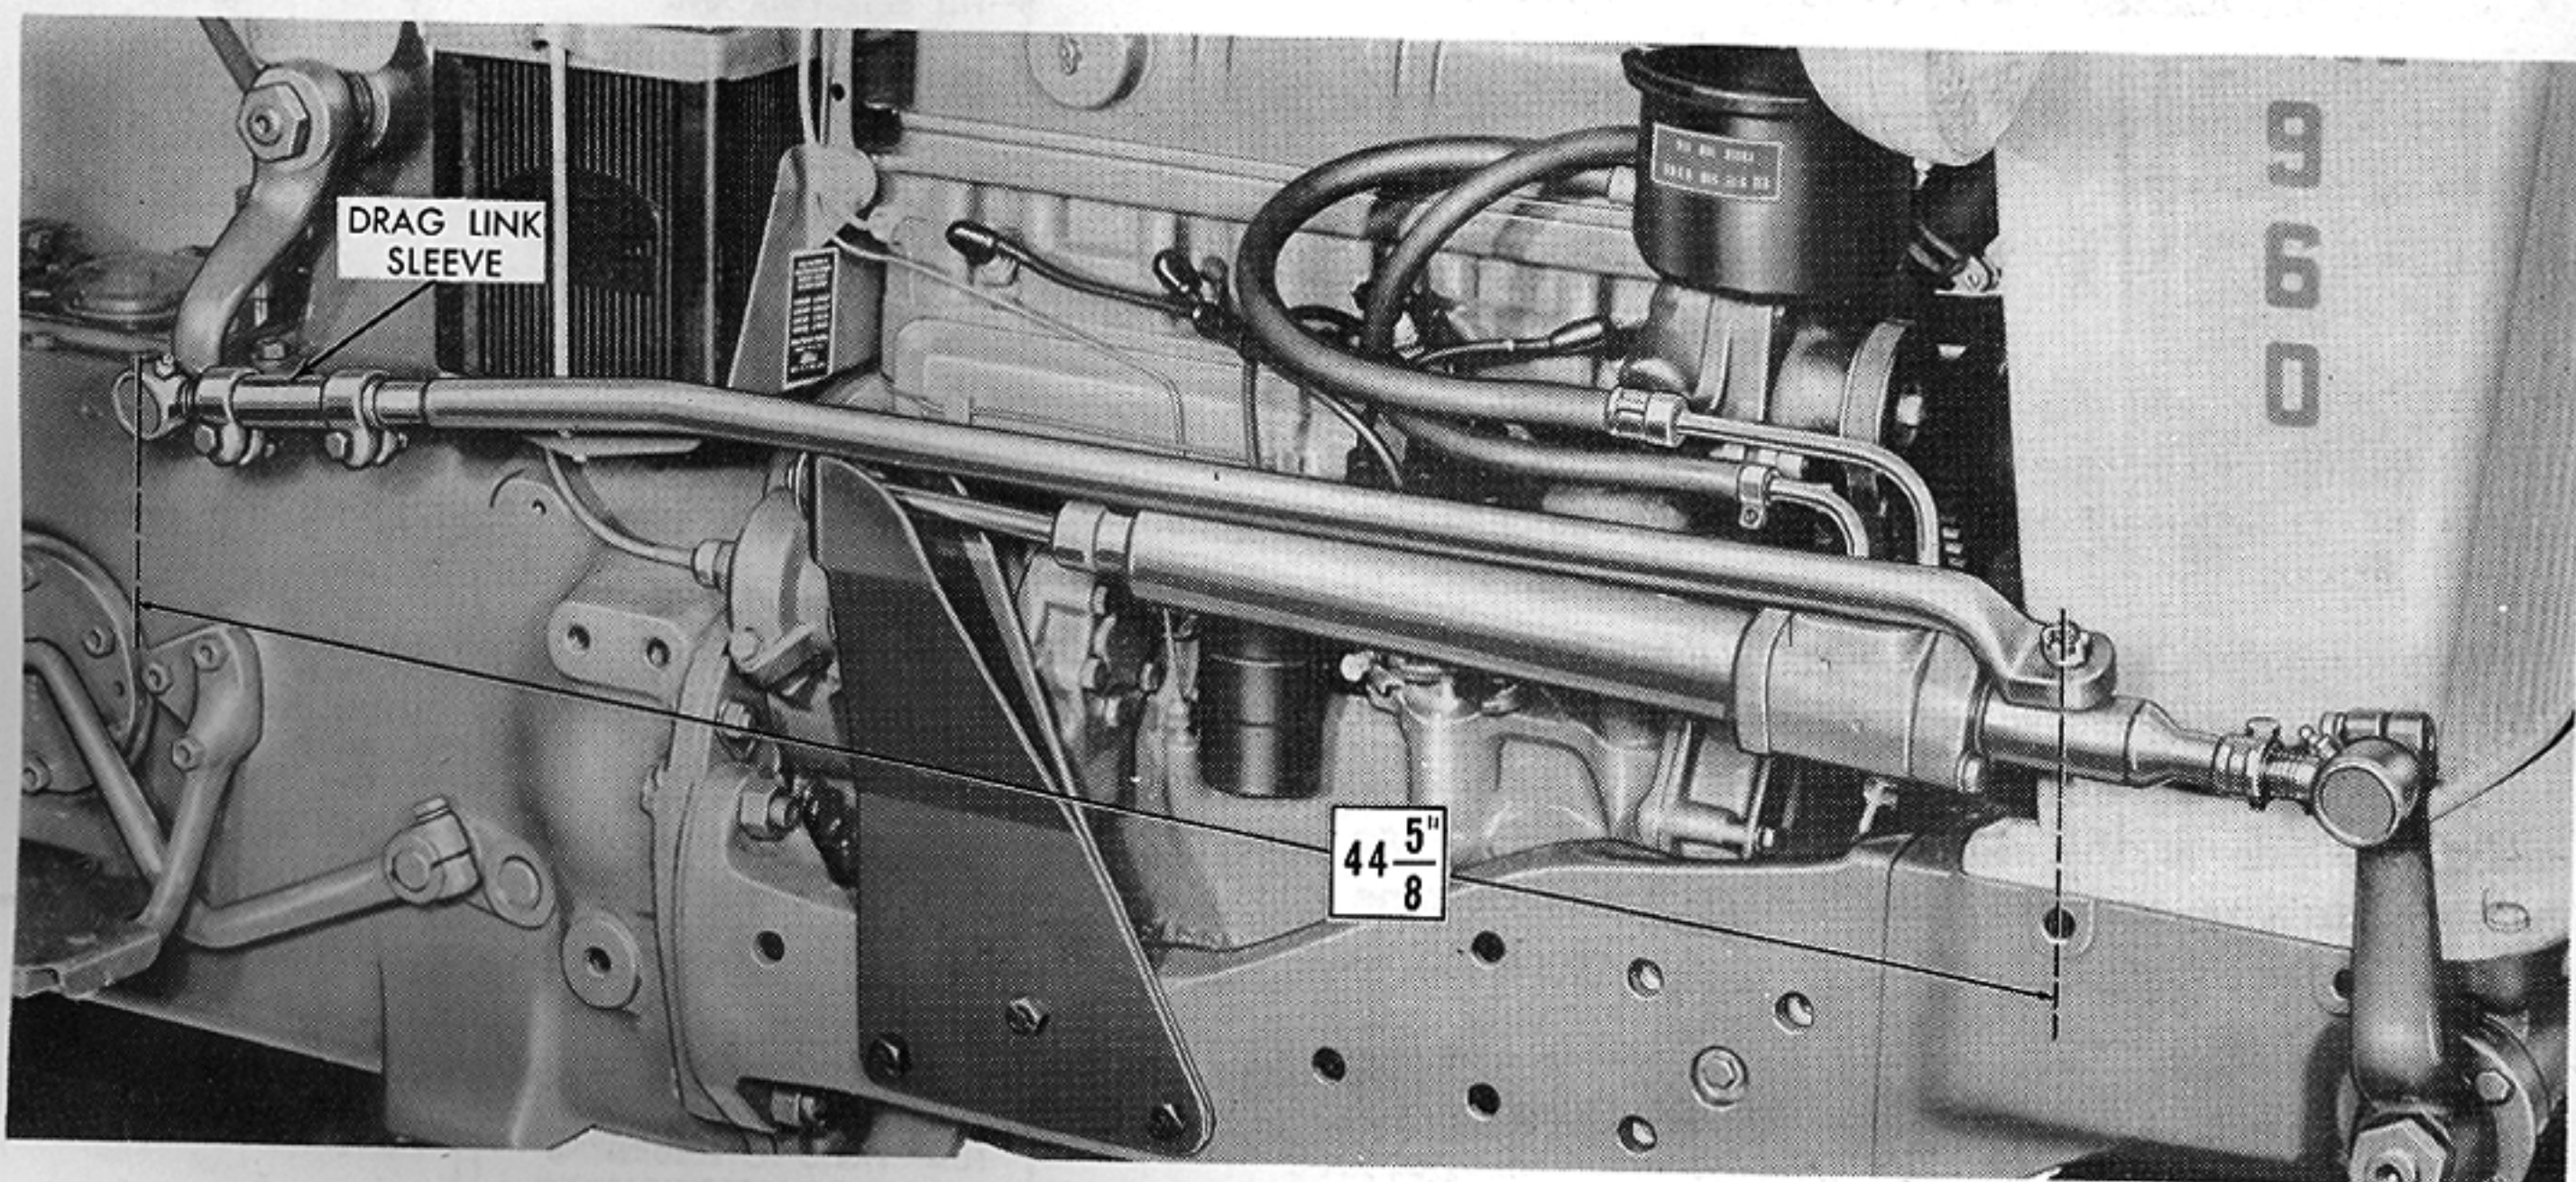

Figure 15—Drag Link Adjustment
9. Adjust the assembled drag link length to  $44\frac{5}{8}$ " between centers of the steering ball stud and rear ball stud as shown in Figure 15.
10. Replenish the system with hydraulic fluid in accordance with instructions given in item 5, under E-Installation on page 13.